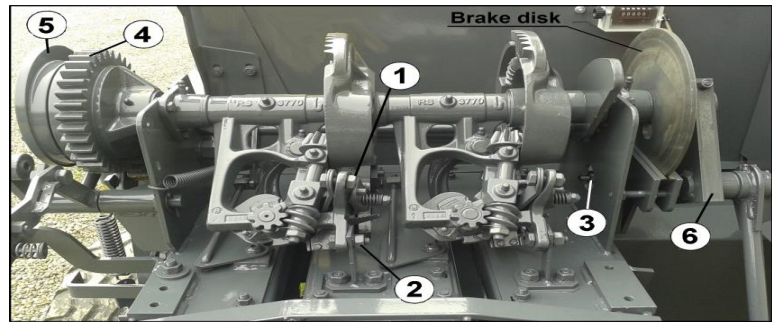

Fig. 9
5. Malfunctioning of the binder engagement device (bell gear n° 4 fig. 9 or cam 5 fig. 9)